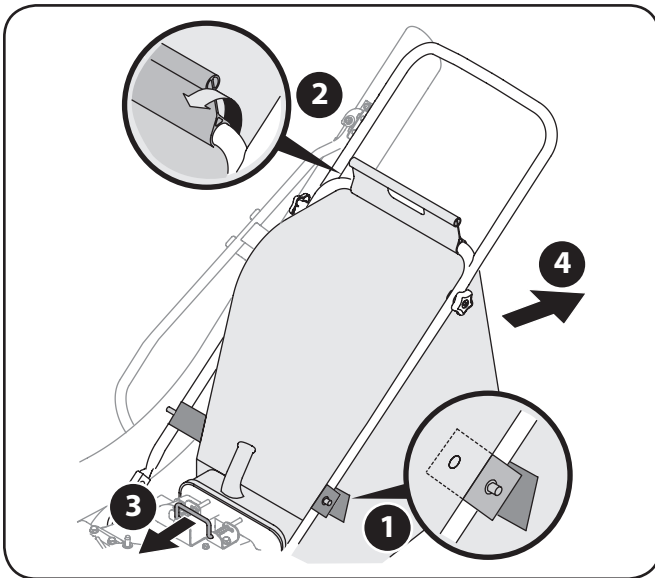

Figure 5-1
2. Unsnap bag clip from the top of lower handle. See Figure 5-1.